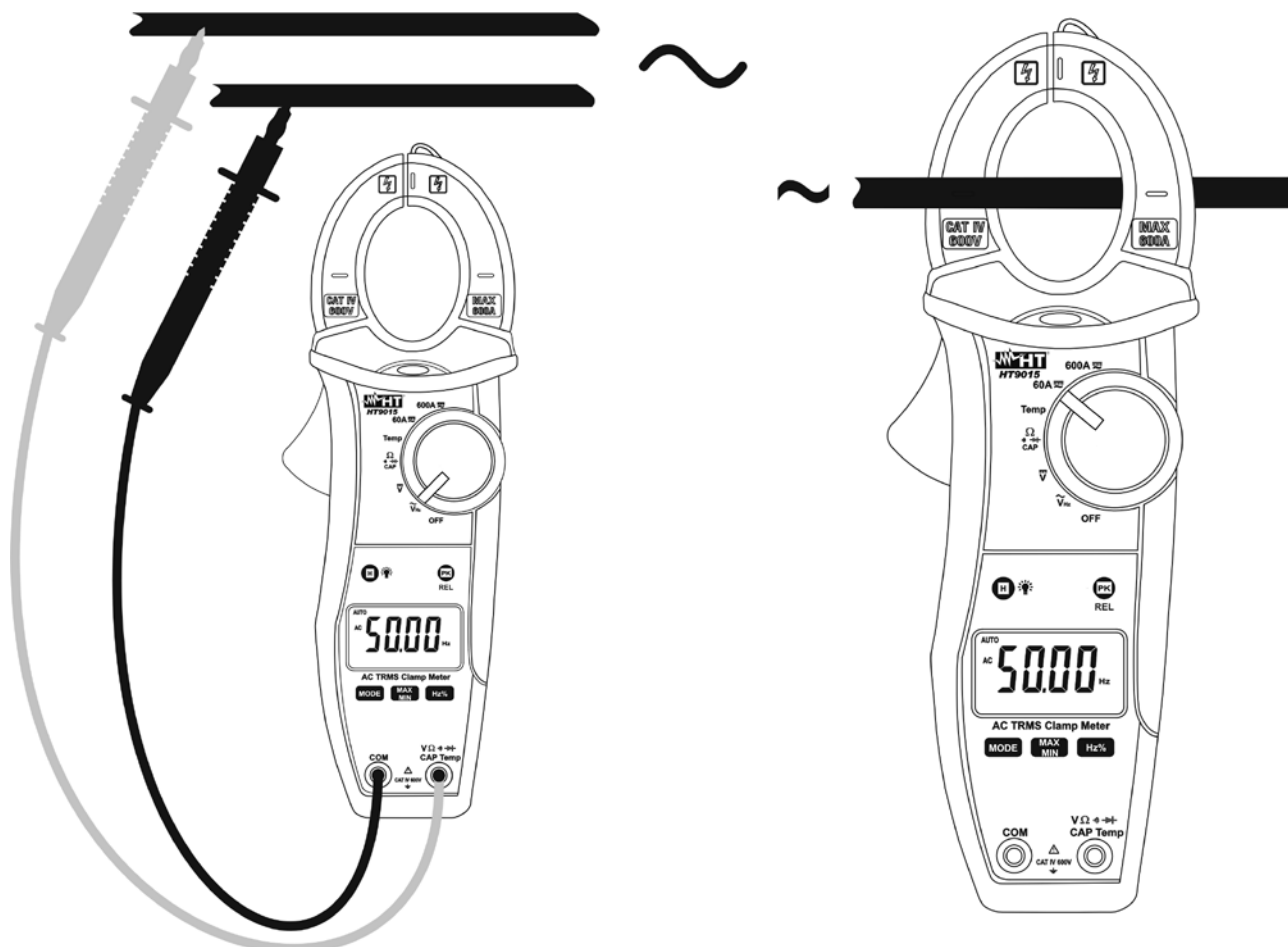

Fig. 11: Taking frequency and duty cycle measurements
3. Insert the red test lead plug into **VΩHz%Temp** jack and the black test lead plug into **COM** jack (see Fig. 11 – left side) for frequency measurement with test leads. Open the clamp and put the conductor to be tested in the middle of the clamp jaw (see Fig. 11 – right side) for frequency measurements with jaws, then reading will be displayed. Bargraph is disabled in frequency and duty cycle test